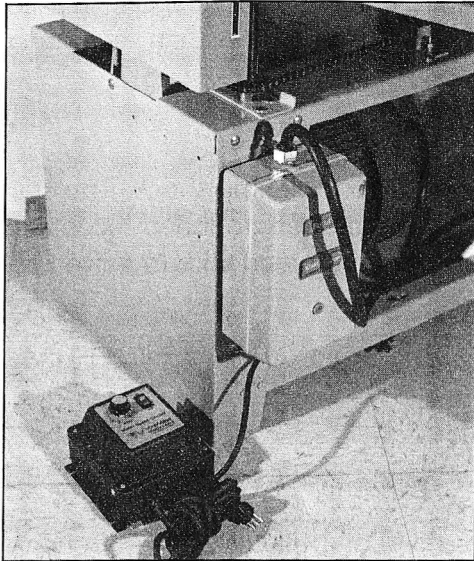

Fig. 2
1. Notice the four small holes in the side of the L.S. Skirt (RB-270). (fig. 2)